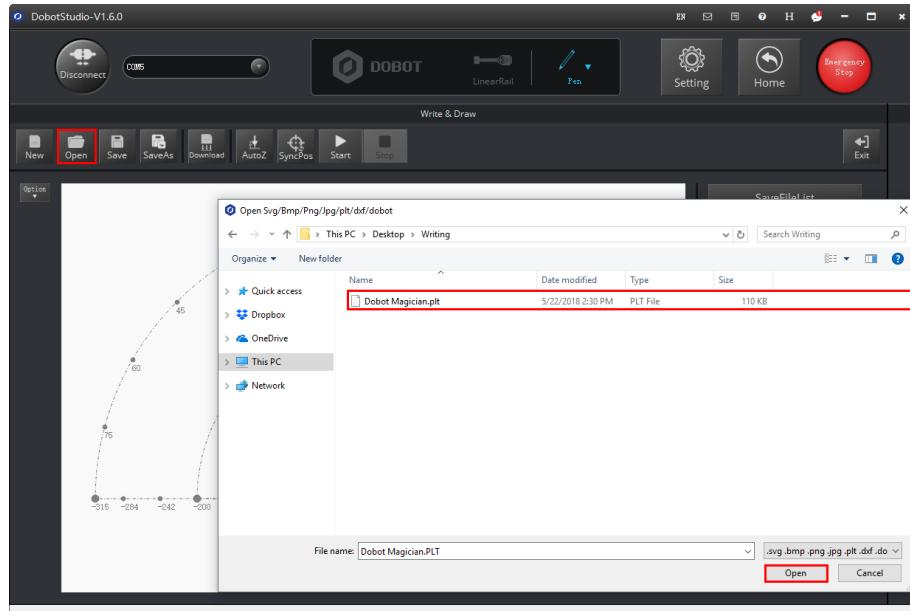

Figure 5.47 Open a PLT or SVG system image file
- Click **Open** on the **Write & Draw** page to import a built-in PLT or SVG image file from the **DobotStudio** installation directory **InstallatationDirectory\DOBOTStudio\config\prefab\system\source**, as shown in Figure 5.47. You can also import your custom PLT or SVG image file.